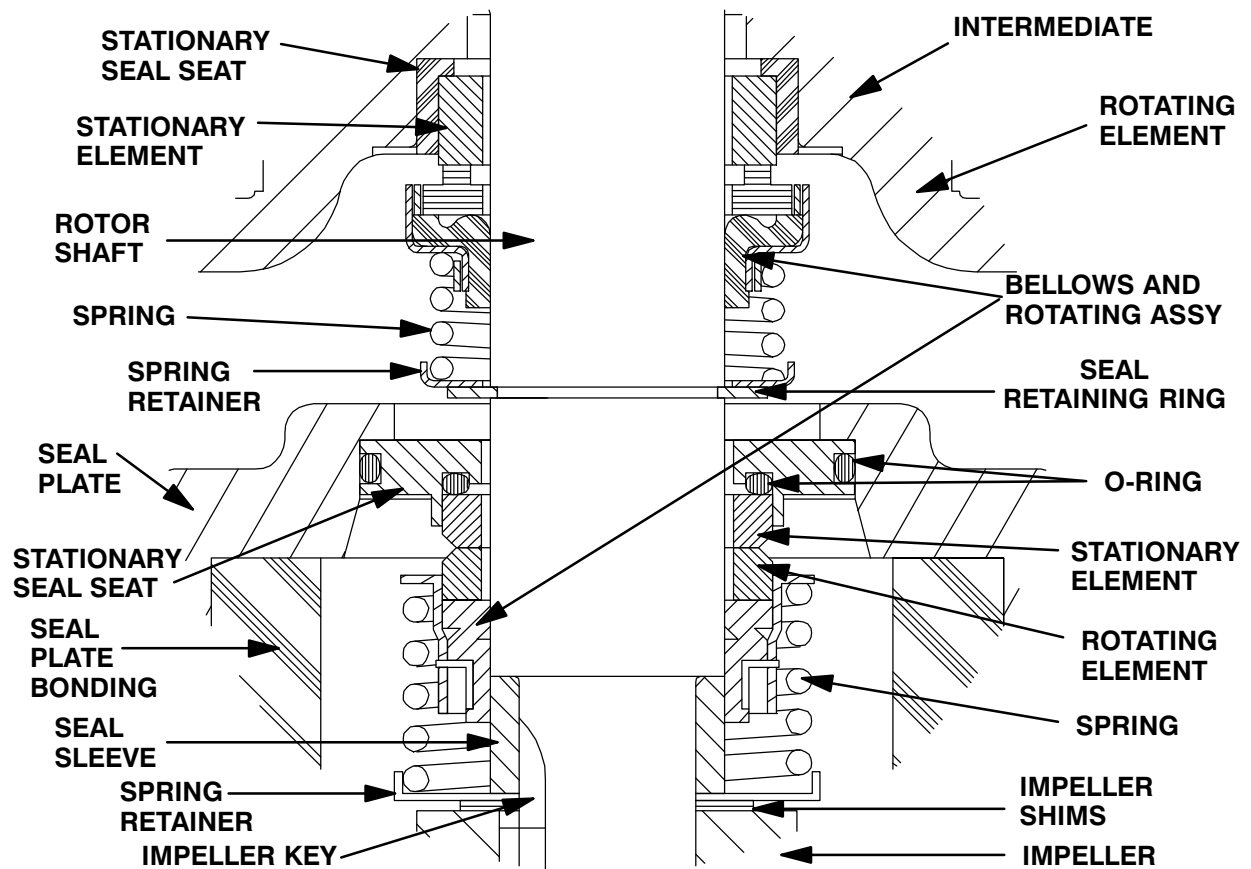

Figure 5. Upper And Lower Seal Assemblies
Install the shaft seals as illustrated in Figure 5.
Apply a **light** coating of oil to the seal seating surface on the shaft, the groove for the retaining ring (9), and I.D. of the bellows. Inspect the seal face to ensure that it is clean and dry. If cleaning is necessary, use a clean tissue to wipe in a circular pattern. Slide the seal rotating portion onto the lubricated shaft as shown in Figure 5. Apply firm, steady pressure on the seal retainer until it slides down the shaft and the seal faces contact.
Slide the seal spring over the shaft and bellows retainer, and install the spring retainer. Install the seal retaining ring (9). See Figure 5 for the proper order of seal assembly.
Slide the seal spring over the shaft and bellows retainer, and install the seal spring retainer (42). See Figure 5 for proper order of seal assembly.